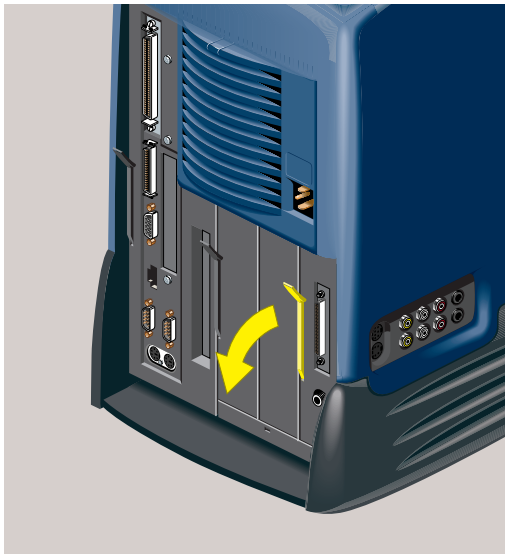

Figure 5-29 Releasing the Audio-Visual Module
3. Pull down the lever on the left side of the audio-visual module to release it (Figure 5-29).